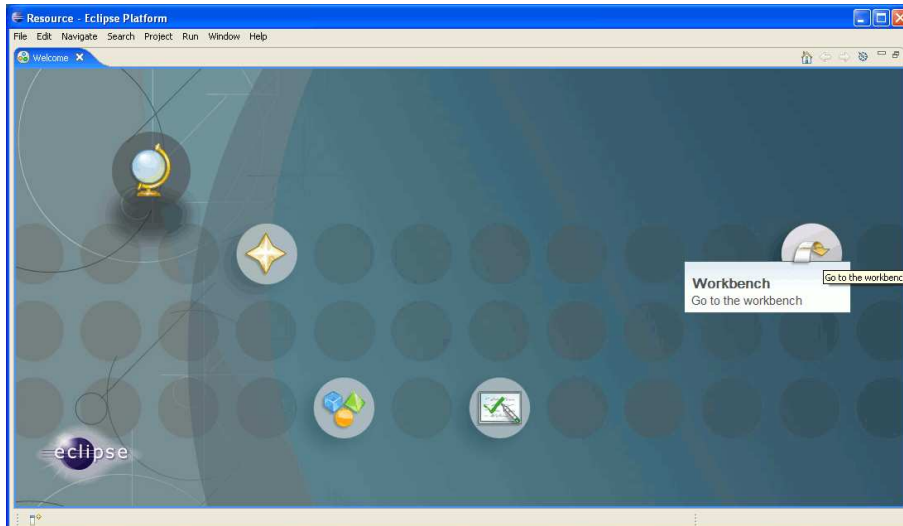

Figure 3.2: The Eclipse Welcome screen.
3. The Eclipse Welcome screen appears, like in Figure 3.2.